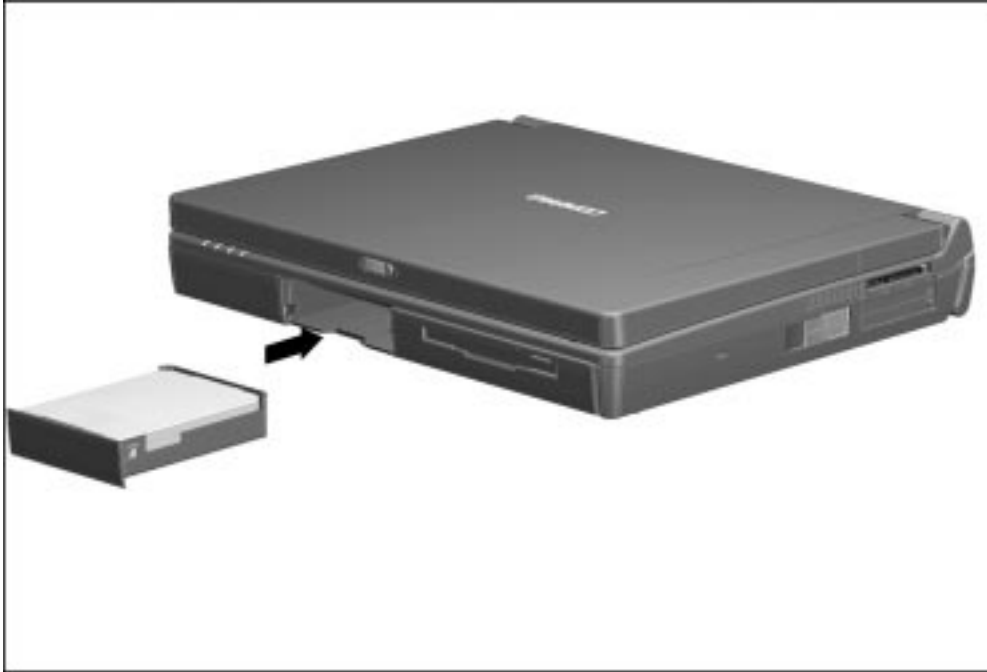

Figure 5-18. *Inserting a Hard Drive into the Hard Drive Bay*
6. Slide the hard drive assembly into the hard drive bay (Figure 5-18).